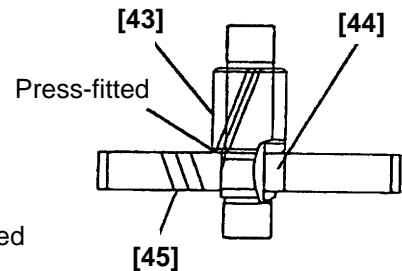

Fig. 18
- 3) Remove the Feather Key [44] and the Third Pinion [43] from the Third Gear [45] by pressing with a hand press (Fig. 18).